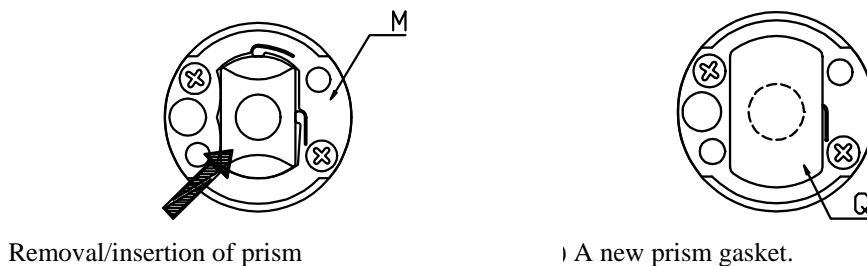

Figure 6.72
12. To remove the prism, push it **gently** against the springs in the prism plate (M), as indicated by an arrow in Figure 6.72 (a).
2. Put the prism in place pushing **gently** against the springs of the prism plate (M). The direction of the force is indicated by an arrow in Figure 6.72 (a). To make sure the prism is in correct position, press the prism in the opposite direction of the arrow.
3. Cover the prism by a new prism gasket (with the center hole uncut) according to Figure 6.72 (b).